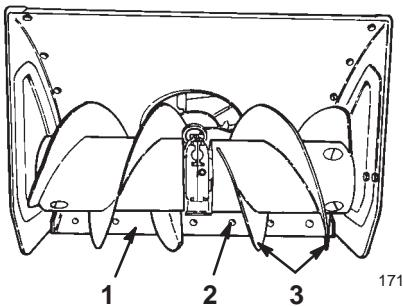

Figure 27
6. Support the *auger blades* so that they are at least 1/8 inch (3 millimeters) off the ground (Fig. 27).
8. To adjust the scraper, loosen the carriage bolts that secure the scraper to the auger housing (Fig. 27), level the scraper, and tighten the carriage bolts.